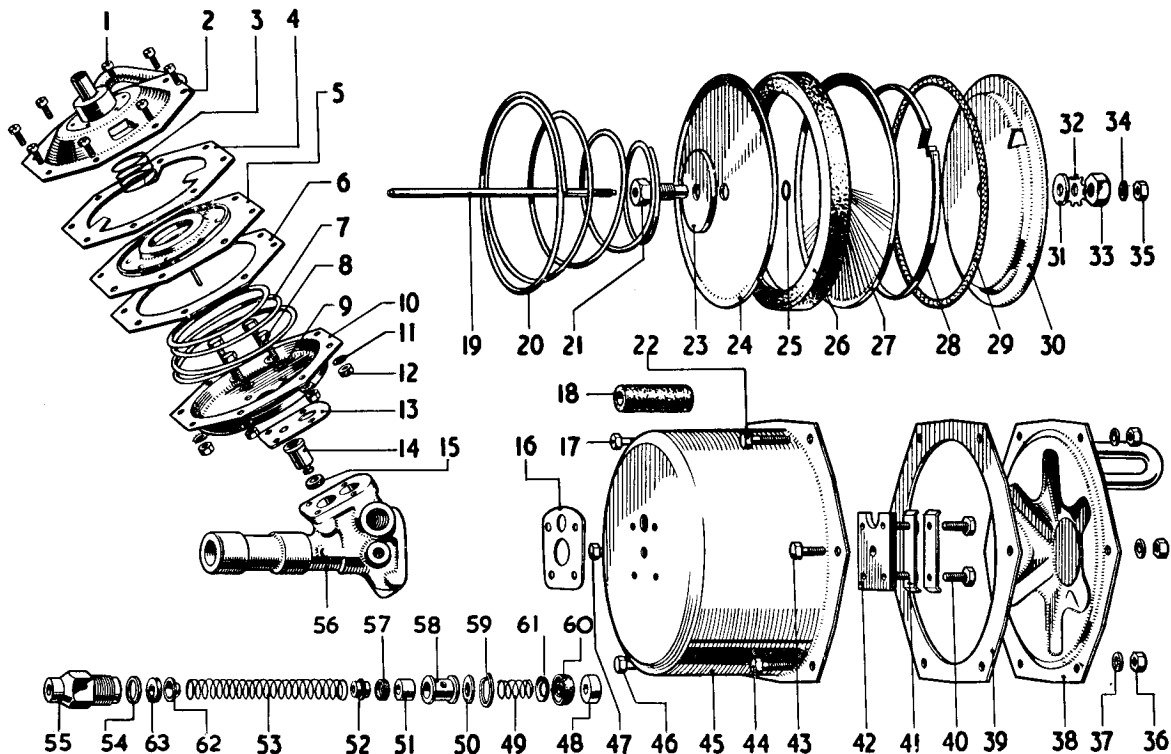

Fig. 41. Exploded view of the 6 $\frac{7}{8}$ " servo unit.
and 55 in Fig. 41). Completely assemble the vacuum cylinder.
Insert the piston (51, Fig. 41) hollow end leading, into the slave cylinder, and push down the bore until it contacts the distance piece. Use a depth gauge to measure the distance between the outer face of the piston and the end of the bore, then pass the depth gauge through the hole in the piston and measure the distance between the end of the push-rod and the end of the bore; the difference between these dimensions should be between 0.060" and 0.070" (1.5 to 1.8 mm.). If the clearance is not within these limits it will be necessary to remove the end cover and, after slackening the locknut, to adjust the push-rod by means of a screwdriver (see Fig. 38). Replace the end cover and once more check the clearance; repeat this procedure, if necessary, until the correct figure is obtained, then tighten the locknut whilst holding the push-rod against rotation, and refit the end cover.
Ease the flexible hose (18, Fig. 41) away from the joint in the pipe. Remove the six nuts (36) which secure the end cover to the vacuum cylinder, taking care to sustain the internal spring load, and remove the end cover.